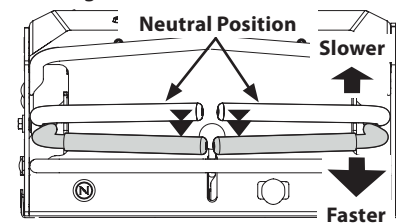

Figure 11
1. Slowly and evenly move both drive control levers rearward. The mower will start to move in the reverse direction. See Figure 11.